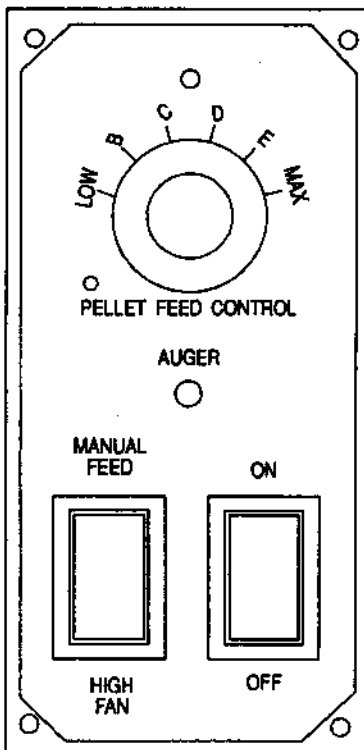

Figure 10
- Fill burn pot by hand or by pressing "MANUAL FEED" switch on control panel (see figure 10). Fill to level just below top air holes. Add approved fire starter (see section 3.92), light and close door. Keep door tightly closed during operation.
## 3.4 PANEL CONTROLS (see figure 10)